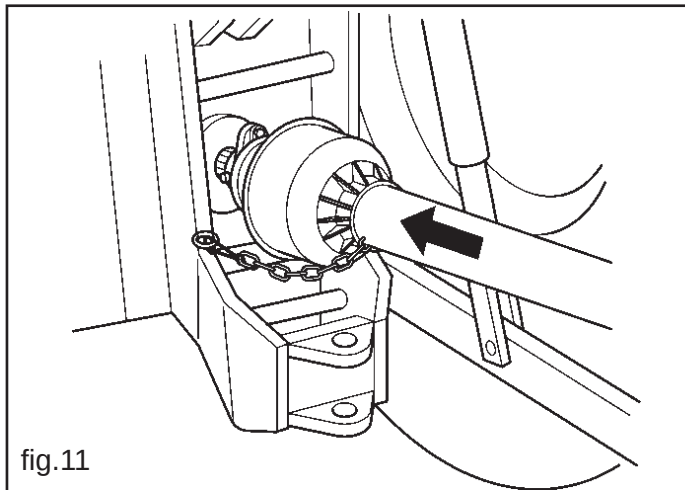

fig.11
- 5) Connect the Cardan shaft and make sure that it is perfectly blocked on the power take-off (fig.11). Check that the guard turns freely and fix it with the chain provided.